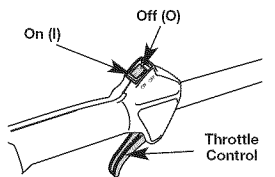

Fig. 3
- NOTE:** There is no need to turn the unit on. The On/Off Control is in the ON (I) position at all times (Fig. 3).
2. Press and hold On/Off Control in the OFF (O) position until engine comes to a complete stop (Fig. 3).